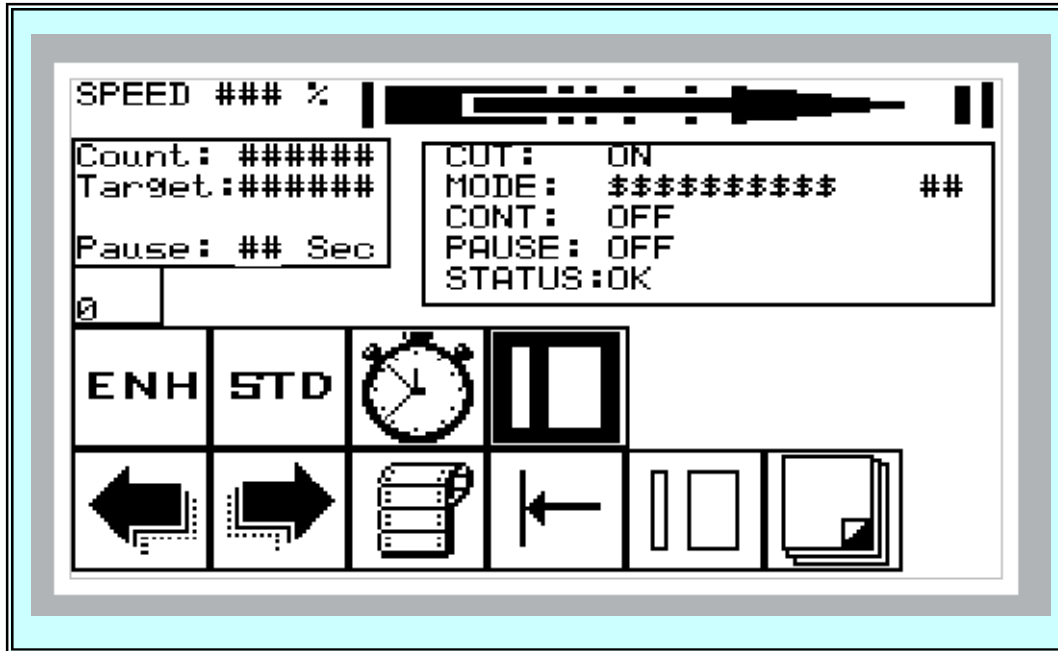

Fig 1.10 Enhanced Run Screen
- Touch the BACK button to move on to the Enhanced Run Screen (Fig 1.10).